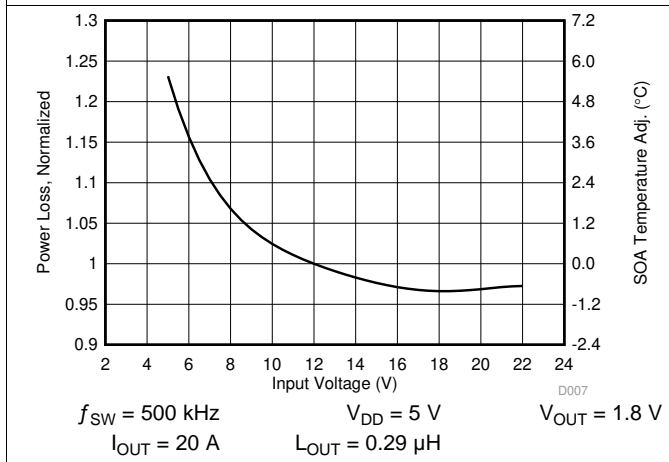

Figure 7. Normalized Power Loss vs Input Voltage
- Normalized power loss for input voltage  $\approx$  1.1 (Figure 7)
- SOA adjustment for input voltage  $\approx$  2.5°C (Figure 7)